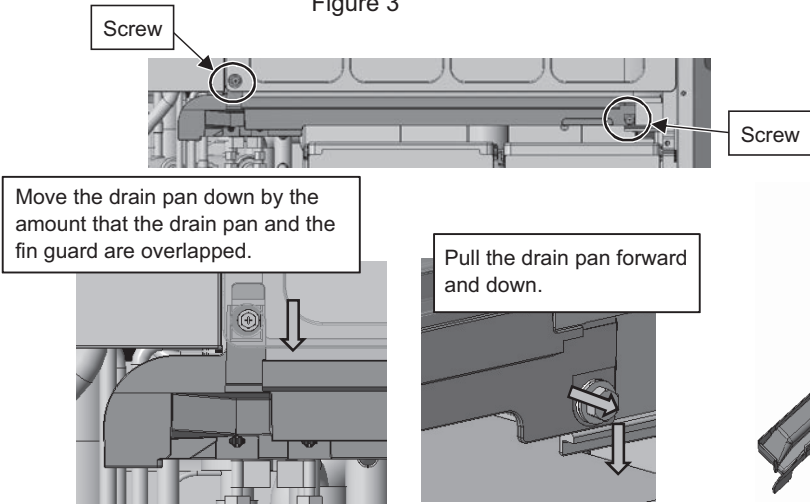

Figure 5
- (4) Remove the drain pan by unscrewing the two screws. (See Figure 5.)